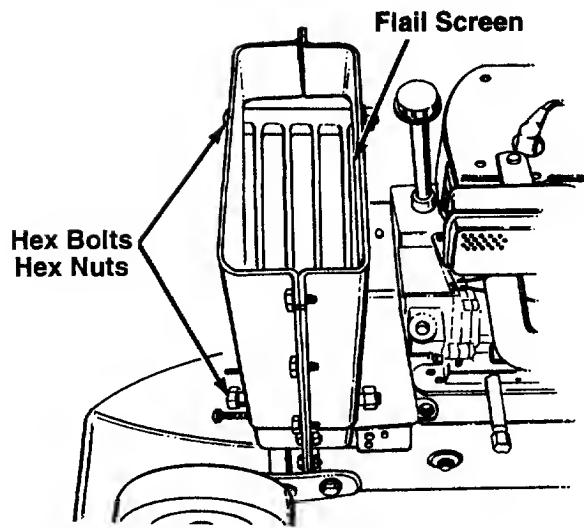

FIGURE 11.
NOTE: Be certain to reassemble the flail screen with the curved side down as shown in figure 11.
4. Remove the two hex bolts and hex nut which extend through the housing. Lift the flail screen from inside the housing. See figure 11.
11. Remove the two hex bolts and hex lock nuts which extend through the housing. Lift the flail screen out of the housing. See figure 11.